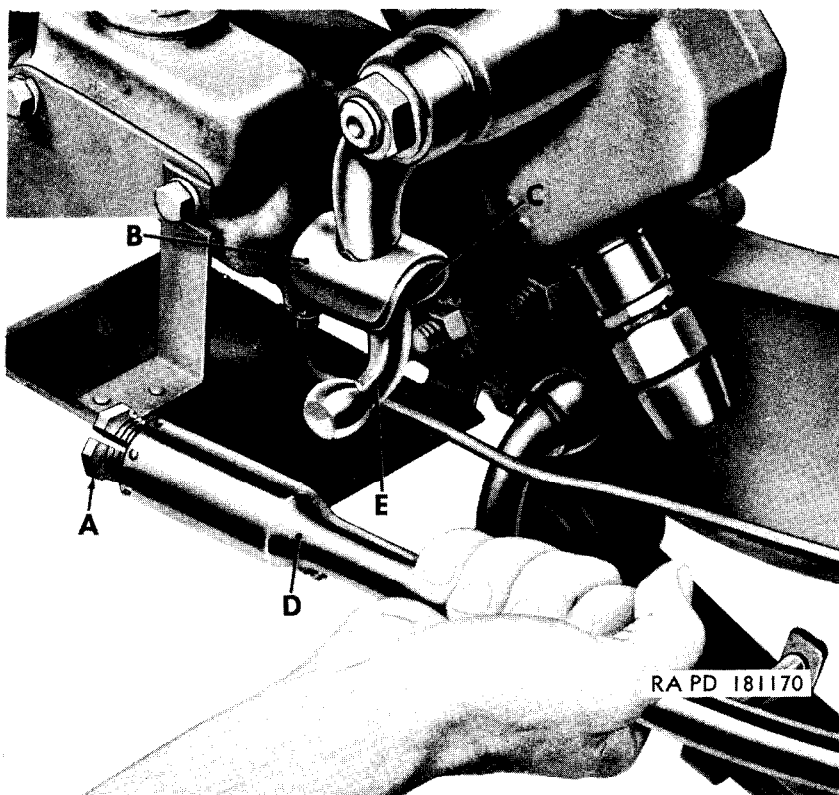

Figure 34. Disconnecting steering drag link assembly.
a. Disconnect Electrical Cables. Disconnect two electrical cables (circuit number 25) (A) leading to bottom of steering gear. Disconnect electrical cables (circuit number 75) (B) from master cylinder assembly.
b. Remove Clips. Remove the eight wiring harness clips (C). Remove open clip (D). Remove two wiring harness clips (E). Remove open clip (F). Remove two bolts, plain nuts, and lockwashers securing open clips (G) to top of rear crossmember. Remove wiring harness from frame.
a. Disconnect Steering Drag Link Assembly (fig. 34). Remove cotter pin from ball seat adjusting plug. Back off gear end ball seat adjusting plug (A) until it is retained by a few threads. Slide dust cover shield (B) and dust cover (C) up pitman arm so that hole in steering drag link is exposed. Pull steering drag link assembly (D) from pitman arm (E).
b. Install Steering Drag Link Assembly (fig. 34). Slip the dust cover shield (B) and dust cover (C) up pitman arm. Slip dust cover shield (C, fig. 42) and dust cover (D, fig. 42) up steering bellcrank arm. Engage steering drag link holes with balls of pitman arm and steering bellcrank.